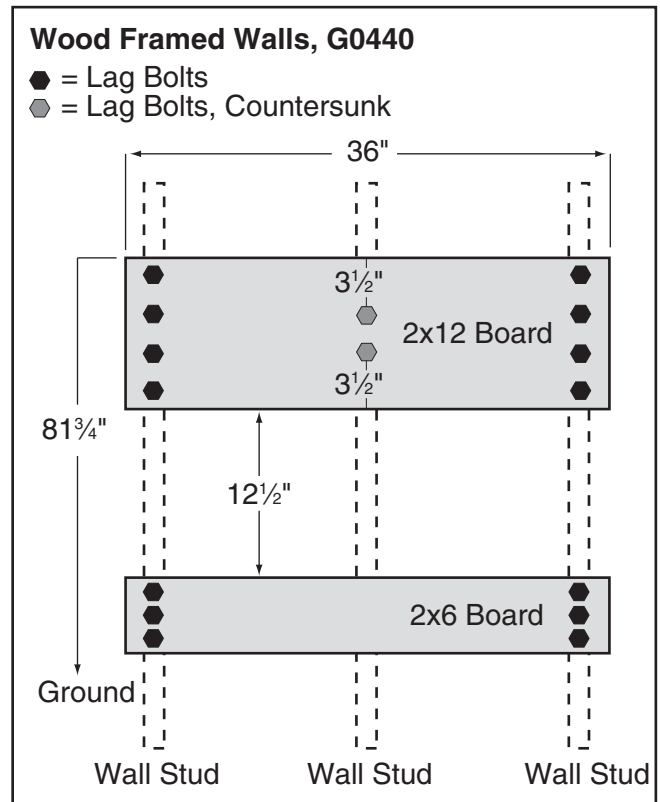

Figure 6. G0440 wall mounting board layout.
1. Secure the wall mounting boards to your wall, using the applicable layout diagrams for your machine and wall type (see **Figures 6–7**).